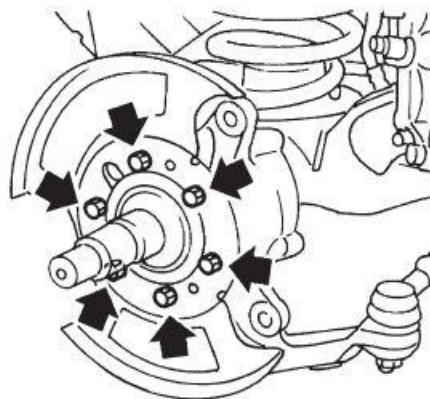

Fig 6
20. Apply a thin layer of oil resistant sealant to the spindle-to-knuckle sealing face and mount the spindle and brake dust shield to the knuckle (Refer fig 6). Tension the spindle flange bolts to 30-40 Nm.